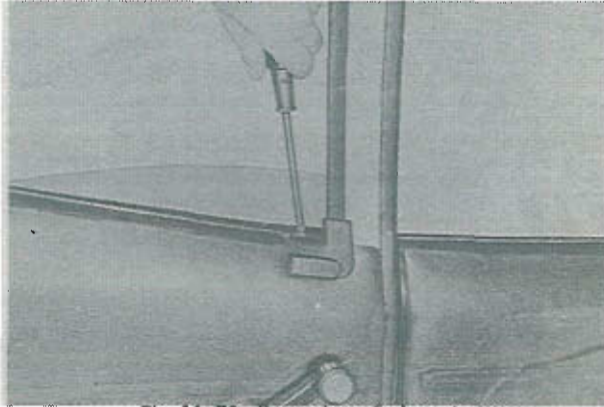

Fig. 14-76 Removing of glass stopper
3. Remove the glass stopper as shown in Fig. 14-76.